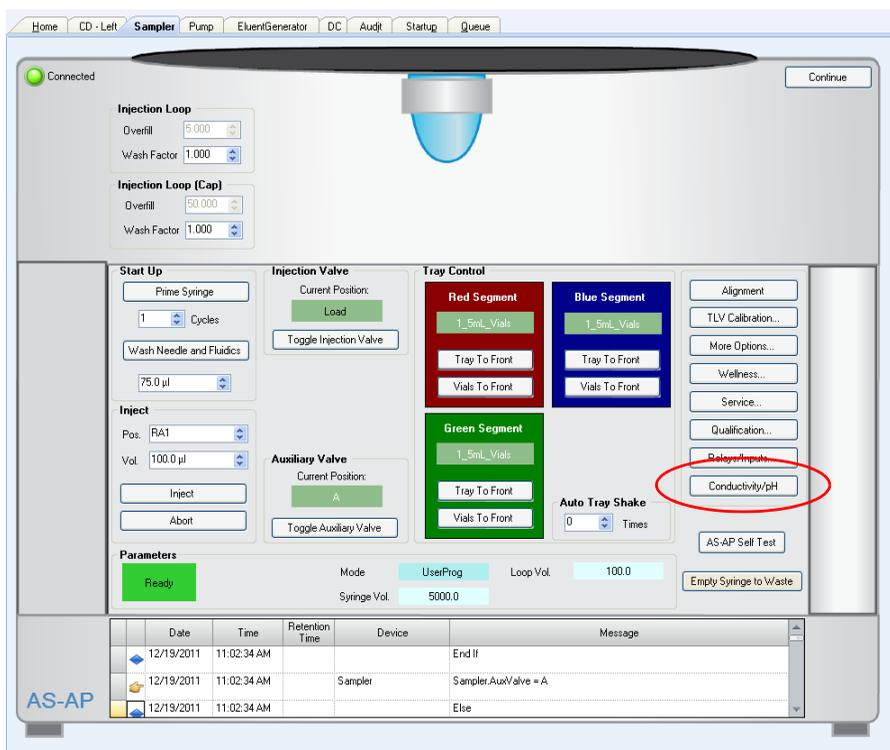

Figure 26. Example Chromeleon 7 ePanel Set: Dionex AS-AP ePanel
2. On the **Sampler** ePanel, click the **Conductivity/pH** button (see Figure 26).